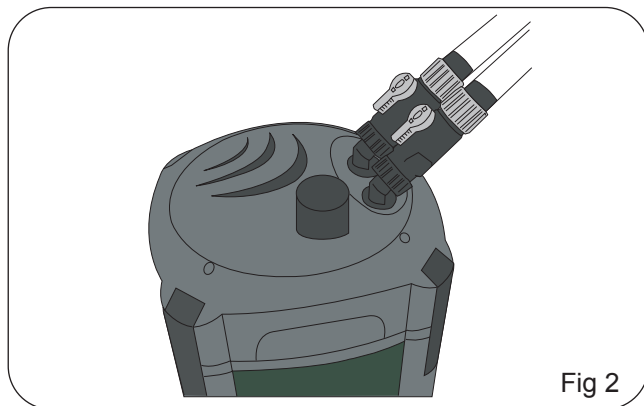

Fig 2
2. Remove the filter grid and the filter media baskets from the canister, remove all media from the plastic bags and place it back into its basket according to the media set up illustrated on page 4. Rinse the baskets with the media in tap water to remove excess dust. Fig 2
4. Disconnect the taps from the head unit by unscrewing them. Undo the collar closest to the head of the filter. Not the ones on the same side as the hose. Please note some water will leak out. Fig 2